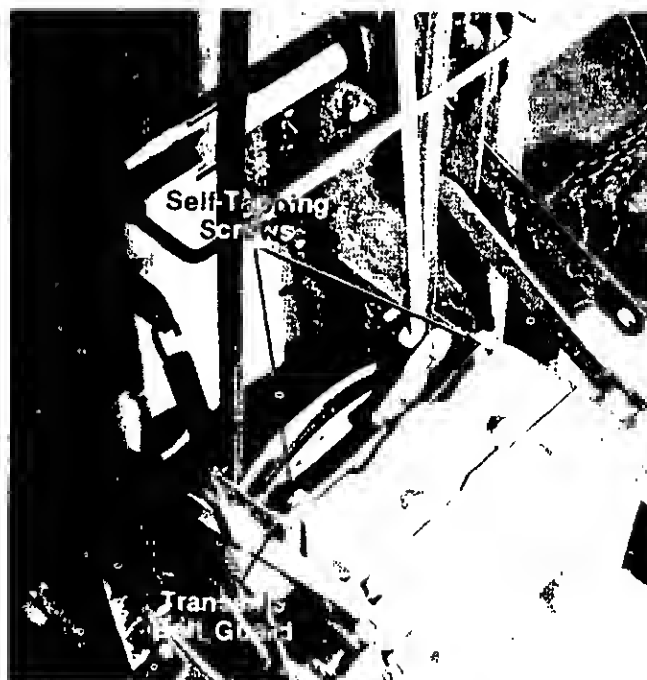

FIGURE 24.
3. Remove the transaxle belt guard by removing the two self-tapping screws. See figure 24.